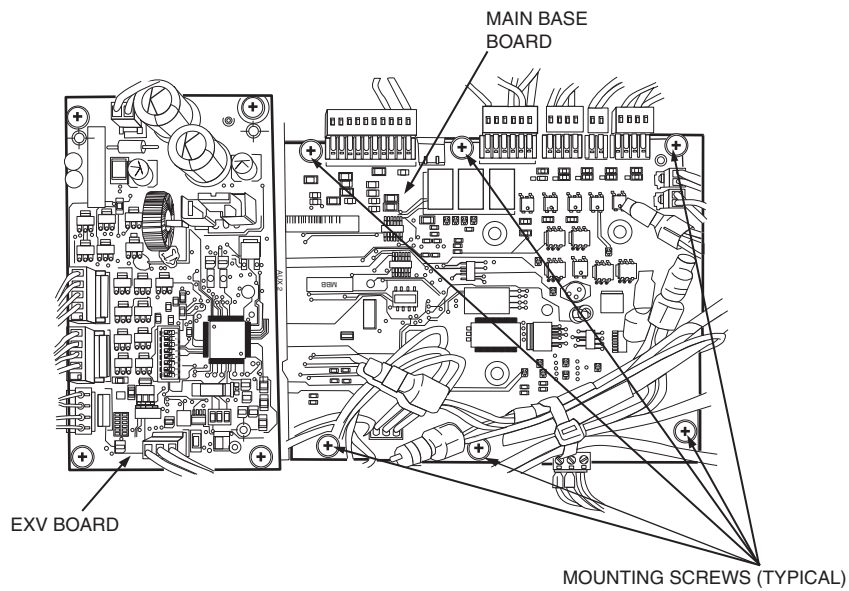
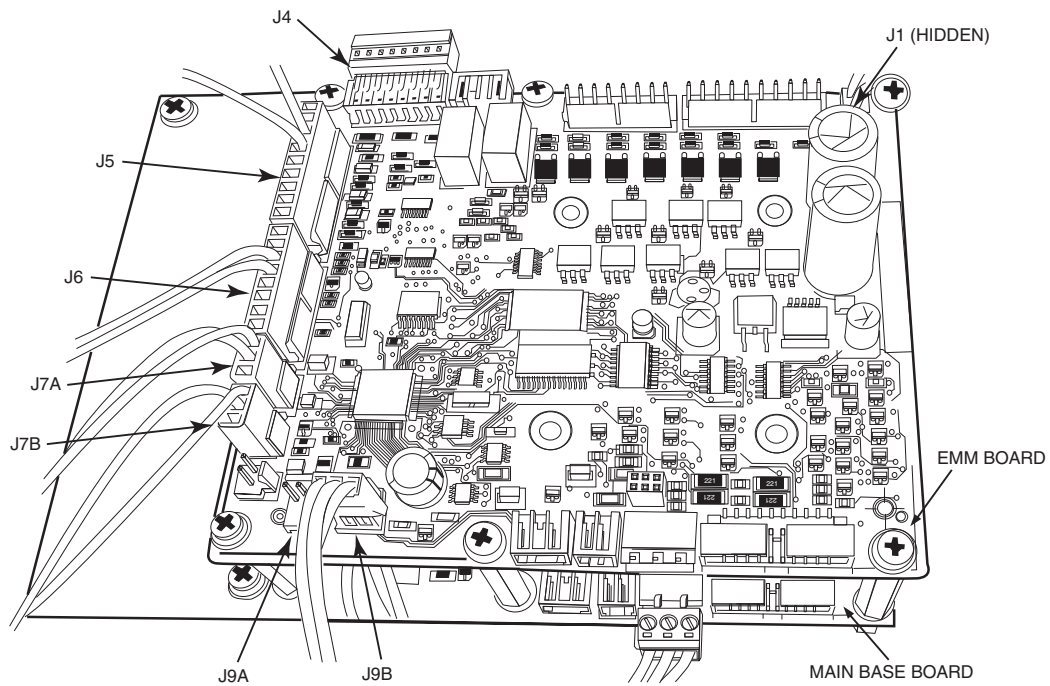

Fig. 1 — Location Above Main Base Board for EMM Mounting (30RB Unit Shown)
Fig. 2 — EMM Mounted Over Main Base Board
3. The EMM board is installed over a pattern of holes through which the MBB is mounted. Remove each screw shown in Fig. 1 and save for later use. As each screw is removed, thread the accessory-supplied spacers into the mounting locations. This way, the MBB never becomes fully dismounted. Place the EMM board over the spacer holes and insert the saved screws. The EMM board should be installed with the power connection plug (J1) facing in the same direction as MBB-J1. See Fig. 2.
4. For 30RB units, remove the cover from the adjacent panduit (wire tray) and locate the 2-pin power plug labeled EMM-J1 inside. Plug the EMM-J1 2-pin power plug into J1 on the EMM board. See Fig. 2.
6. Using the accessory-supplied black, red, and white wire harness, connect the plug marked EMM-J9B on the EMM board to the now empty MBB-J9B. See Fig. 2.
7. Each of the remaining accessory-supplied EMM board wiring harnesses' connectors are labeled J4, J5, J6, J7A and J7B. Connect these to their respective connectors on the EMM board. See Fig. 2 and 5.
5. Using the accessory-supplied black, red, and white wiring harness, connect the plug marked EMM-J9B on the EMM board. See Fig. 2 for location.
6. Each of the remaining accessory-supplied EMM board wiring harness connectors are labeled J4, J5, J6, J7A, and J7B. Connect these to their respective connectors on the EMM board. See Fig. 2 and 5.